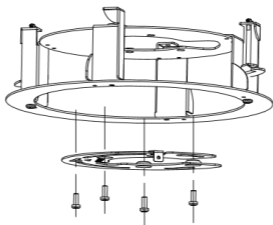

Figure 2-12 Fix the Base Plate to In-ceiling Bracket
3. Align the cable holes of the base plate to the cable holes of the in-ceiling bracket and then fix the base plate onto the bracket with the four screws in the package (supplied), as shown Figure 2-12.